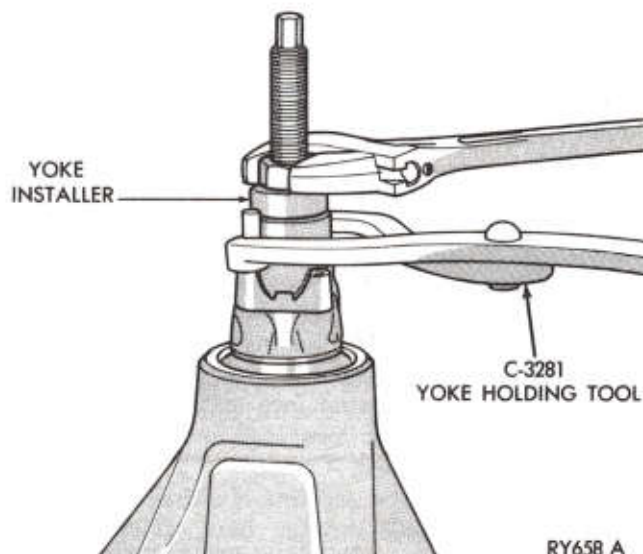

Fig. 22—Installing Pinion and Yoke
(3) Install pinion into carrier followed by the outer pinion bearing cone, (baffle if used), end yoke, washer and nut. Use yoke installing Tool C-3718 and Tool C-3281 (Fig. 22).